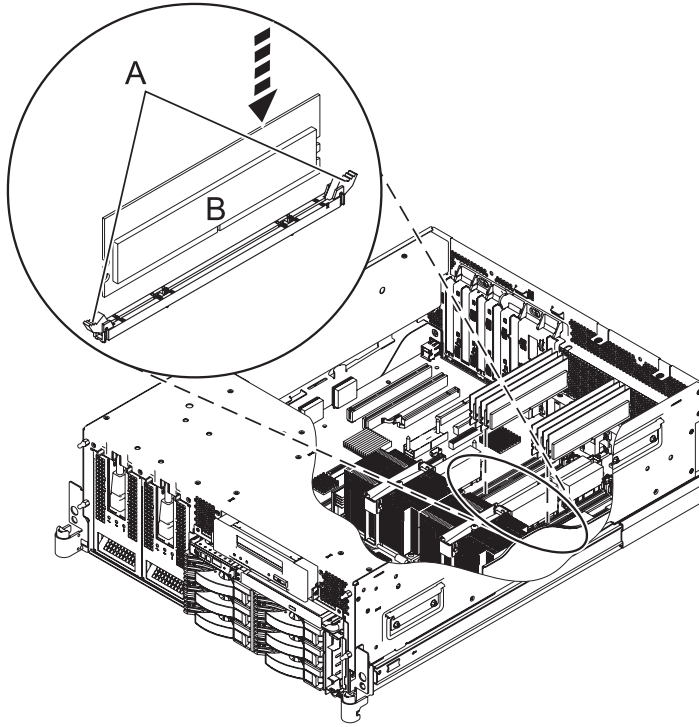

Figure 17. Replacing a memory module
10. Ensure that the connector is ready to receive the memory module. Remove the memory module filler, if one is present, by pushing the tabs **(A)** out and then down, as shown in Figure 17 on page 28. The lever action of the tabs forces the memory module filler out of the connector.